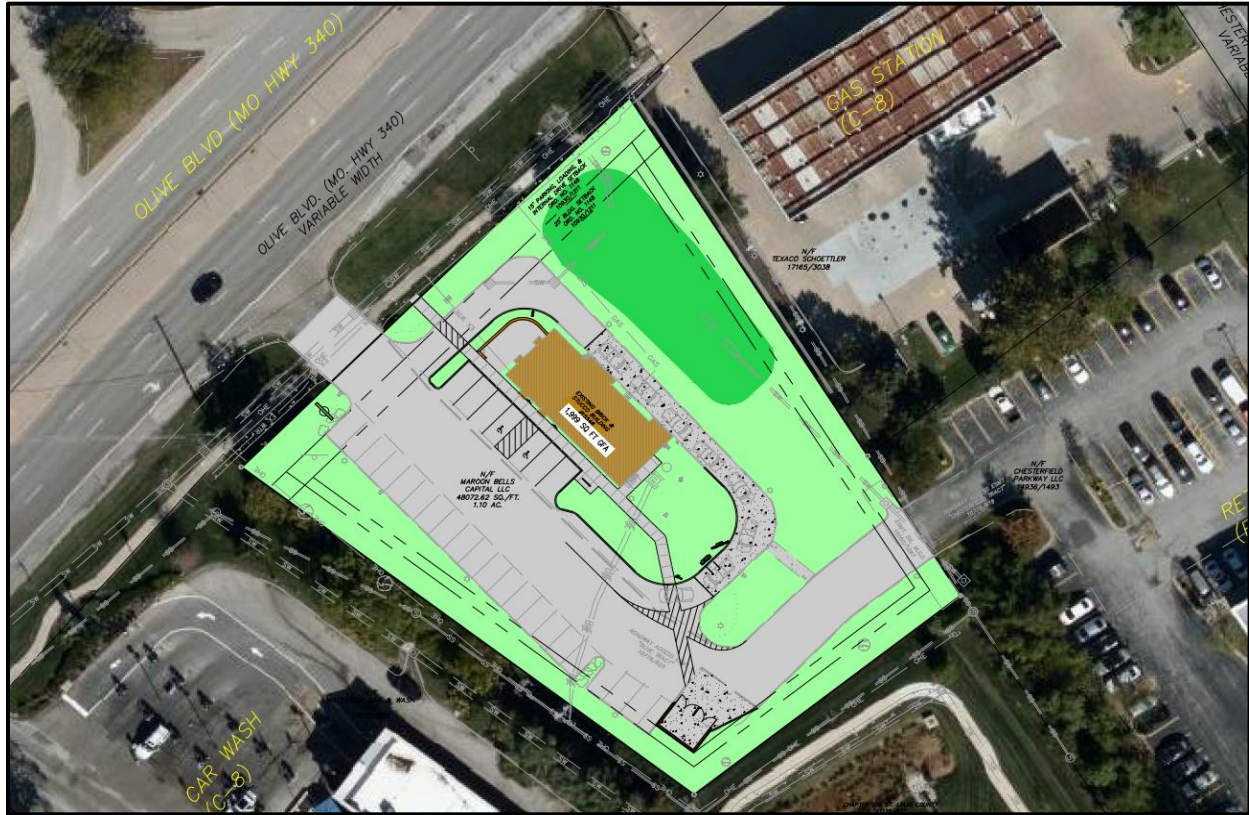

Figure 2: Color Site Plan
As shown in Figure 2, the site is served by two (2) existing vehicular access points. The primary access point is located along Olive Blvd and provides right in/right out access. The secondary access is an existing easement to an adjacent parking lot to the southeast. The adjacent parking lot provides full access to Chesterfield Parkway East. The existing sidewalk along Olive Blvd. is to be utilized while being extended internally to provide connectivity to and from the building, parking area, and a proposed concrete patio. Additionally, a sidewalk will be provided from the rear stock room door to the relocated trash enclosure.